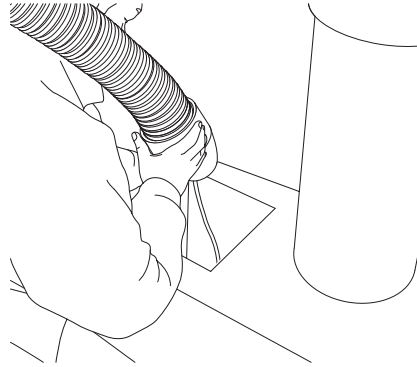

Fig. 23
10. A suitable weight should then be tied to the guide rope fixed to the cone. The weight can then be passed into the chimney and will draw the guide rope down (Fig. 23).